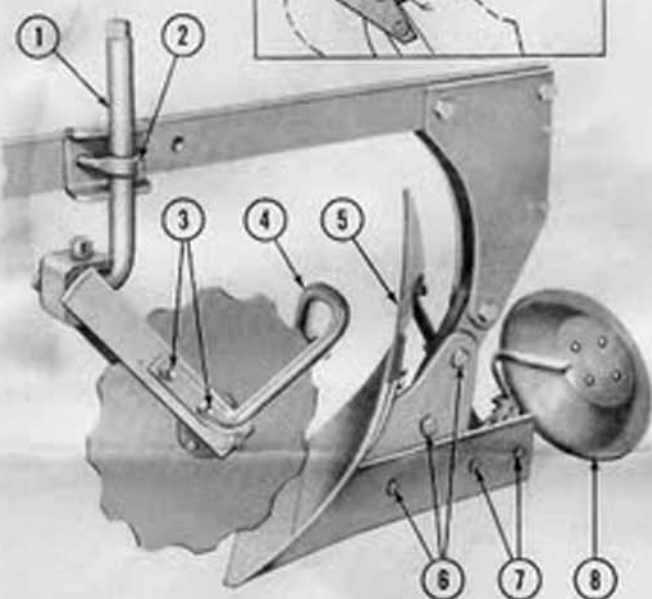

Figure 11 - Bottoms, Rolling Landside, Coulters and Jointers Attached
2. Attach the bottom assemblies (see 5, Figure 11) to the plow frame as follows:
- b. Back the tractor, with the plow frame attached, over the bottom assemblies (5), Figure 11, and lower the frame until the holes in the plow beams align with the holes in the bottoms.
**IMPORTANT:** When attaching the rear bottom, install the BEAM STOP on the right side of the beam as shown in the inset, Figure 11. This prevents damage to the rolling landside when the rear bottom is tripped.
3. Secure the bottoms to the beams with the three bolts, lock washers and nuts as shown at (6), Figure 11.
4. Attach the rolling landside assembly (8), Figure 11, to the plow as follows:
- a. Bolt the rolling landside arm to the sliding landside with two plow bolts, lock washers and nuts (7). Do not tighten securely at this time.
- c. Tighten the nuts on the plow bolts (7), Figure 11, securely.
- a. Attach the coulters stem (1), Figure 11, to the plow beam with the U-bolt and seat (2), as shown. Adjust the coulters as outlined in the PRELIMINARY ADJUSTMENTS, then tighten the U-bolt nuts securely.
- b. Attach the jointer arm (4), Figure 11, to the left side of the coulters fork with two carriage bolts, lock washers and nuts (3). Adjust the jointer so that the point is lightly touching the coulters blade and approximately 2 inches above the lower edge of the coulters blade.